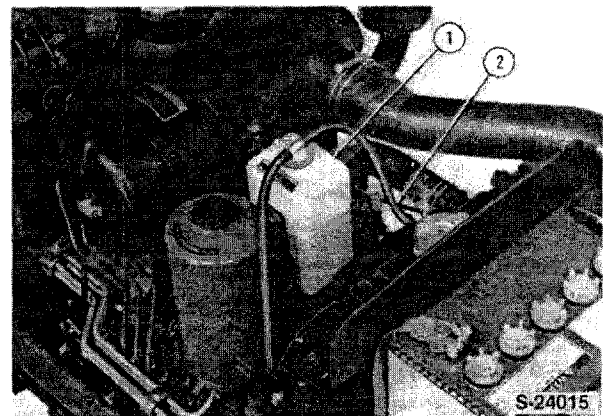

Figure 9
8. On model 1720 tractors, disconnect the coolant reserve tank hose (2) from the radiator, Figure 9.